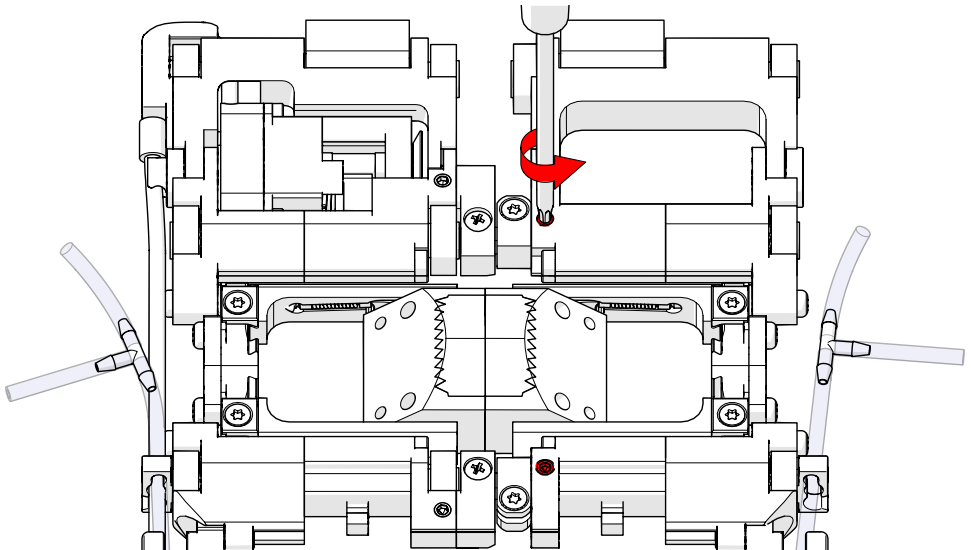

Fig. 70 - Loosen the crossbar clamp screws
4. Loosen the two crossbar clamp screws located on the dual side of the scanner (Fig. 70).